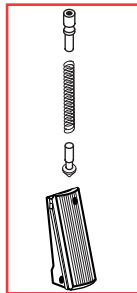

Figure 16
1. Assemble the mainspring cap, mainspring, and mainspring retainer then insert into the mainspring housing. (See Figure 16)